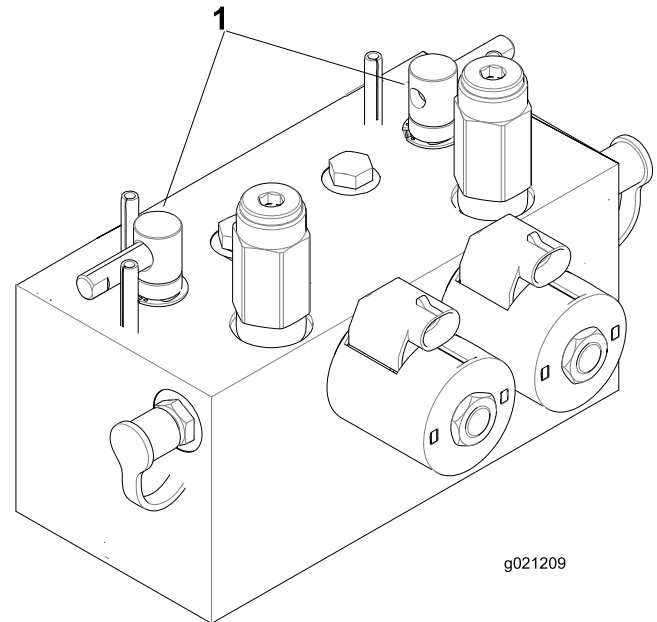

Figure 70
2. Unlock and raise the seat to expose the backlap levers (Figure 70).
5. Select either front, rear, or both backlap levers to determine which units to backlap (Figure 70).